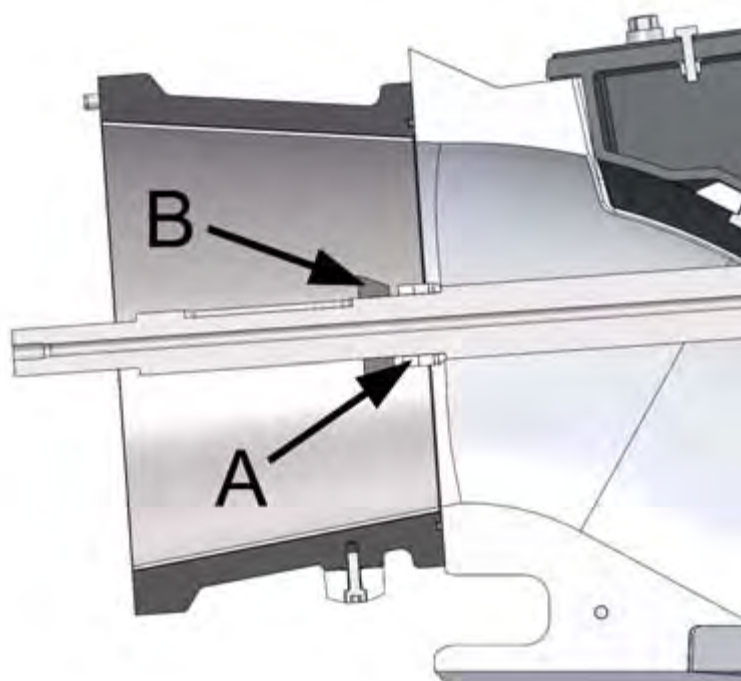

Figure 33. Adjuster sleeve
The thrust caused by the impeller is transmitted through the adjuster sleeve to the shaft (figure 33, point A). The sleeve consists of rings of different thickness. The length of the sleeve can be adjusted in 0.5 mm (approx. 0.02") increments by changing the number of the rings. This way the impeller gap on the outer race becomes fit.
3. Push the sleeve and the plastic insulating ring (figure 33, point B) on to the shaft. The insulating ring sits against the impeller.